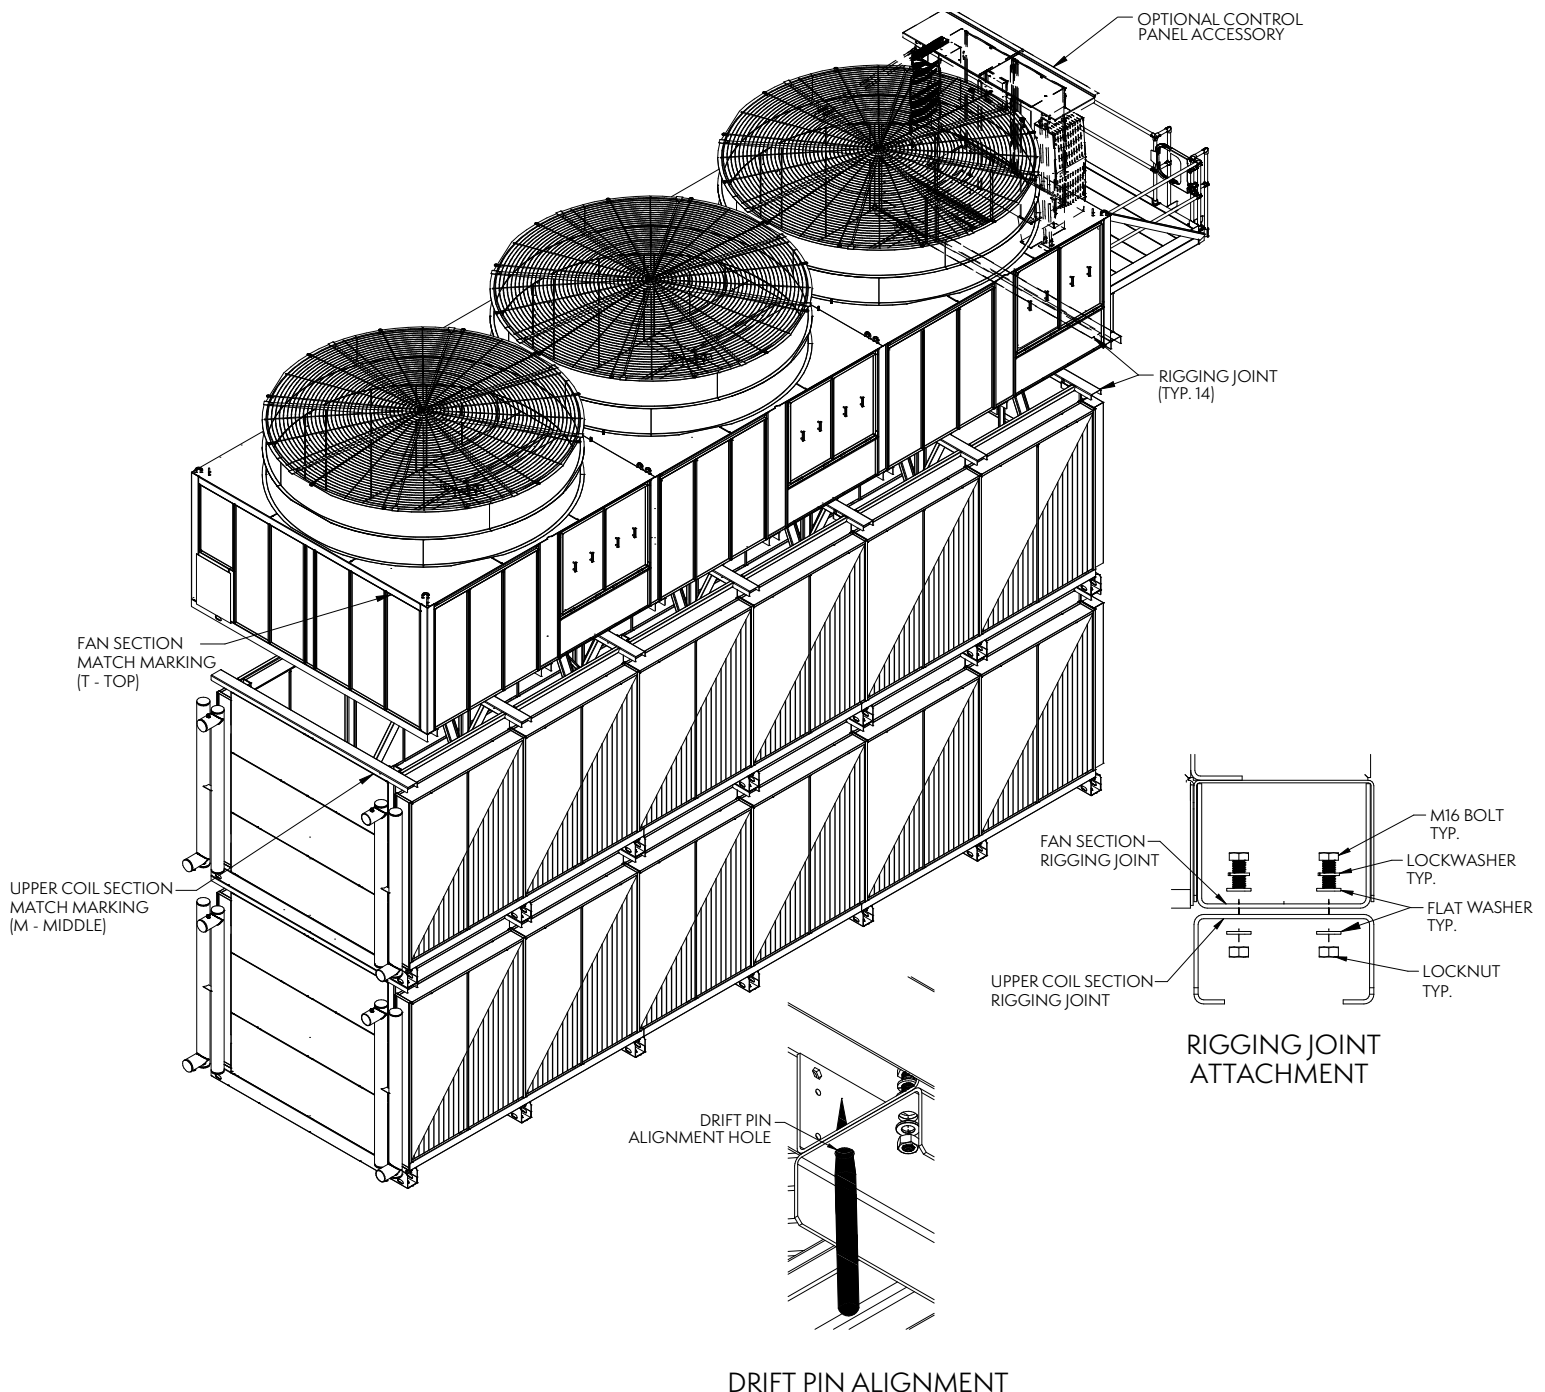

Figure 8 – Joining Fan Section to Upper Coil Section
1. Carefully lower fan section onto upper coil section using drift pins in the four corners and as needed to align rigging holes with the transverse steel support channels on the upper coil section. Fasten fan section to upper coil section rigging connections as shown in Figure 8. Units are provided with match markings on each section, as shown in Appendix A. Rigging hardware is provided.